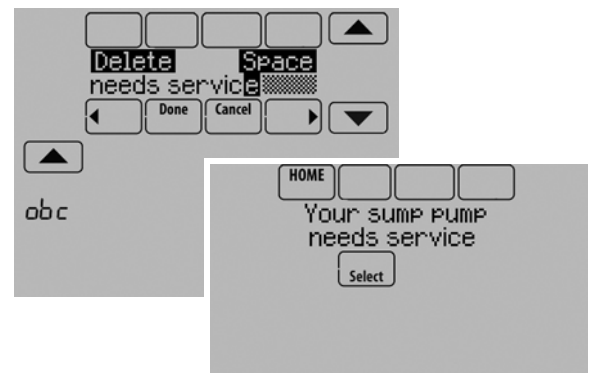

Fig. 161.
6. If you are creating a custom alert, type the alert name and press Done. The alert name is what appears on the Home screen when the alert is detected. See Fig. 161. You can edit or confirm the alert name after you enter it.